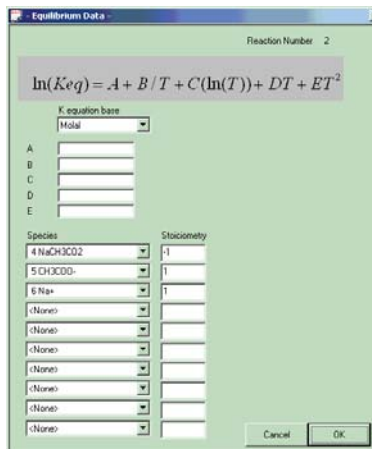

Figure 3: Equilibrium Data Dialog
- Fill out the blank Equilibrium Data dialog as shown on Figure 3.